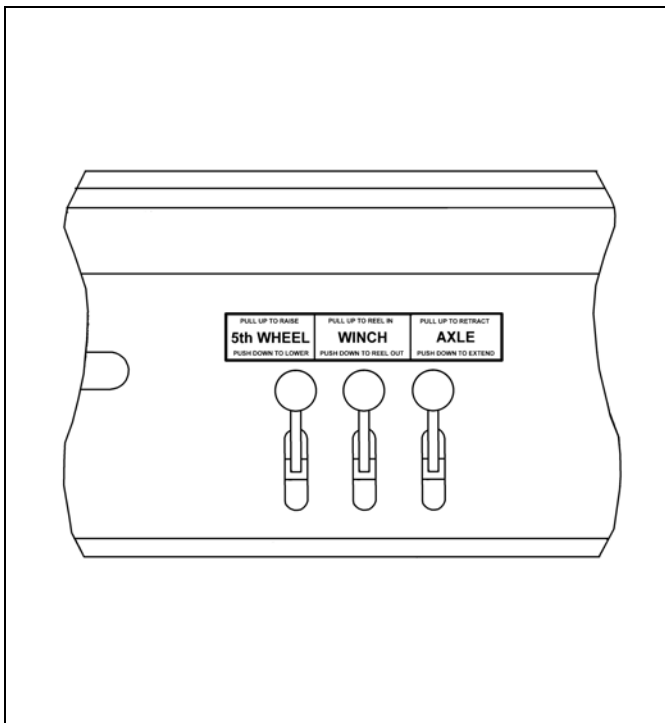

Figure 3-3: Hydraulic Controls
2. The **HYDRAULIC WINCH CONTROL LEVER** is the center lever (See Figure 3-3.) It has three positions:
The **AXLE CONTROL LEVER** is located on the front, lower deck of the driver's side frame member (**See Figure 3-3.**) It is the rear lever with three positions:
The **TRAILER TILT LEVER** is located on the front lower deck of the driver's side frame member (**See Figure 3-3.**) It is the front lever with three positions: